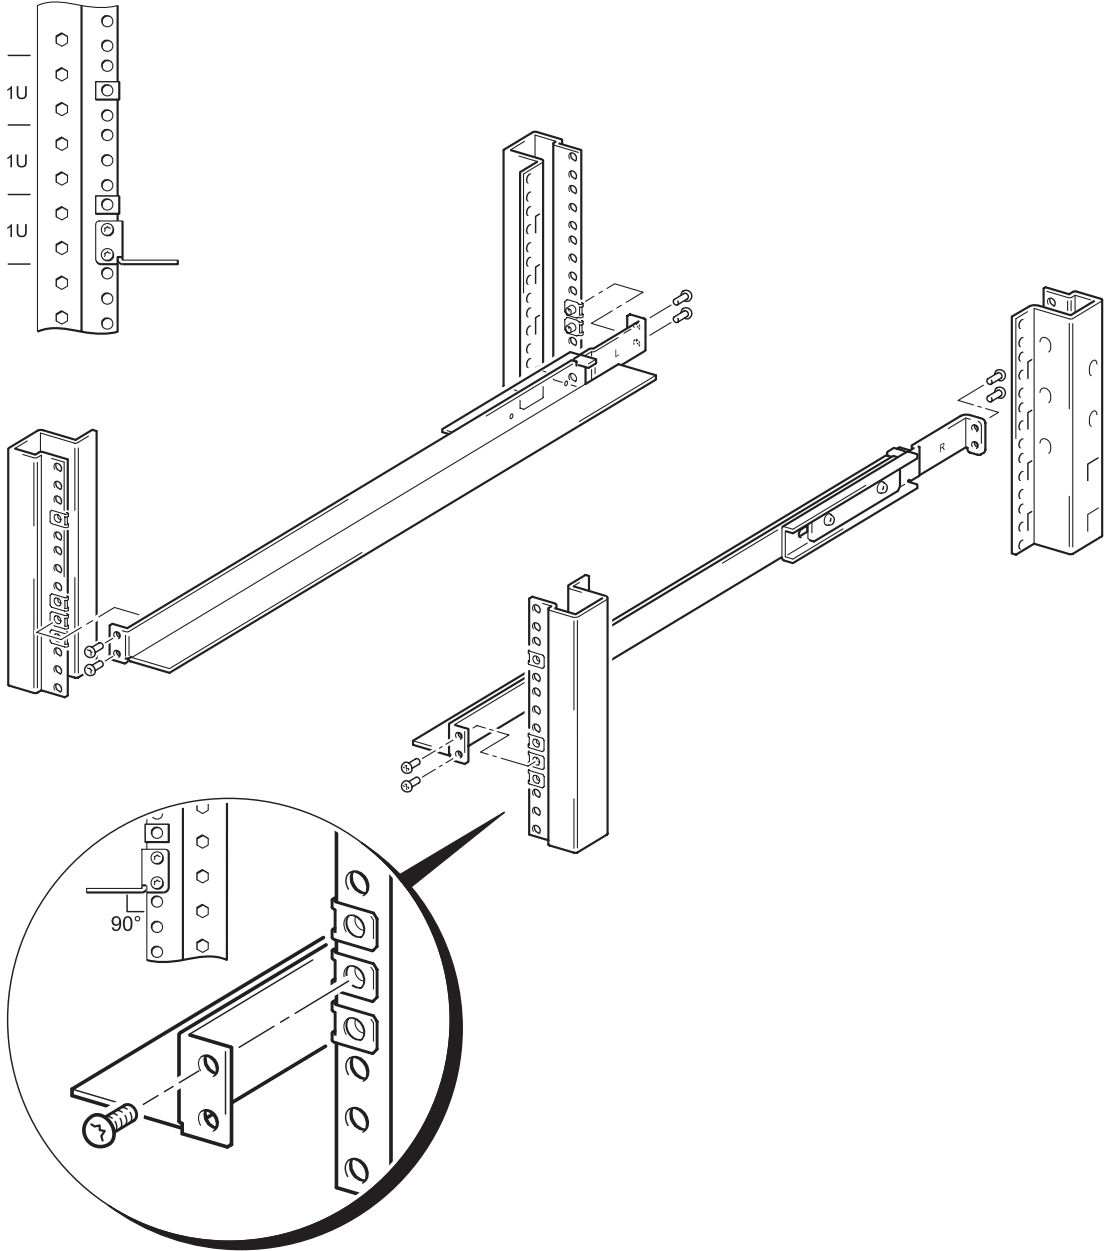

Figure 3a: Install support rails (round hole profile)
- 1 Refer to Figure 3a. Position a support rail so that the flange at the rear of the rail locates over the rear rack column and the two holes in the rail flange align with the two clip nuts. It is much easier if this is done by two persons.